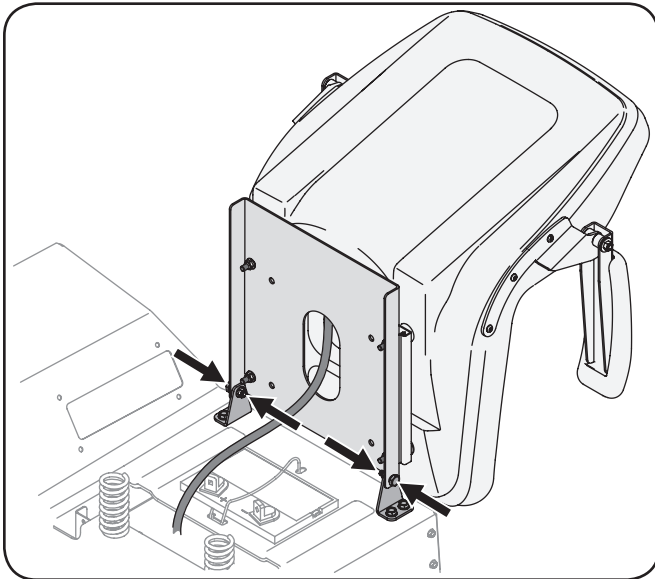

Figure 3-4
- Rotate the seat into position and secure the seat into place with the previously removed shoulder bolts and lock nuts. Be careful not to crimp or damage the wire harness while installing the seat. See Fig. 3-4.